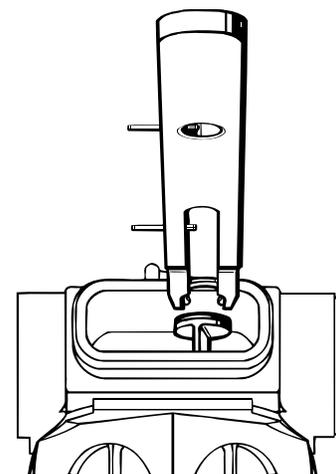

Fig. 10 - V.A.S. Circlip Installation
4. While holding the vane switch in place, set the box bottom on a flat surface with the open side facing down and the switch at 12 o'clock. Guide the tool holding the circlip into the outlet boss, with the top surface of the tool held up flush against the inner wall, directly behind the vane (see Fig. 10). Press the circlip evenly onto the groove of the vane stem until it snaps audibly into place. Remove the tool and examine closely to ensure that the circlip is seated evenly inside the groove of the vane stem. Correct the position of the circlip if necessary.